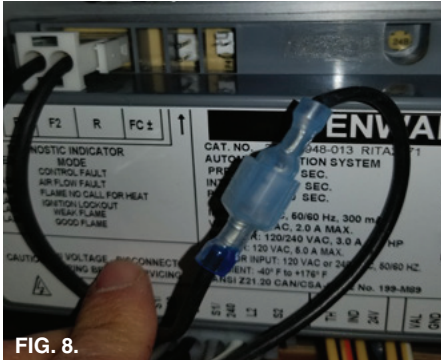
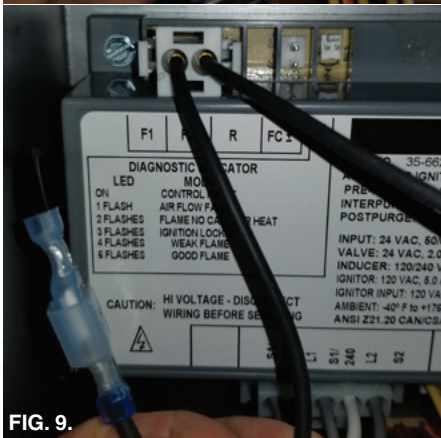

FIG. 8.
FIG. 9.
- Connect the male terminals from F1 and F2 to the corresponding F1 and F2 cables of the wire harness as shown in Fig. 8 and Fig. 9.